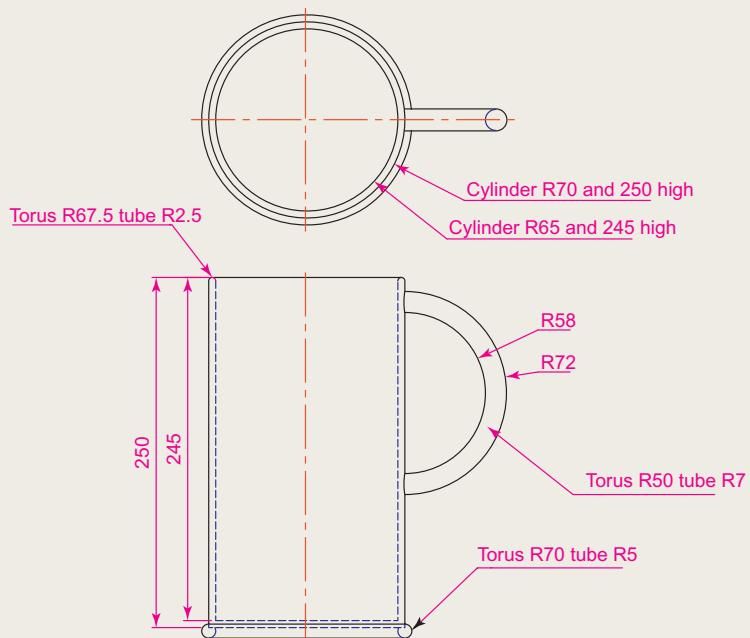

Fig. 14.47 Exercise 4
- Construct a solid of revolution of the jug shown in the orthographic projection (Fig. 14.47). Construct a handle from an extrusion of a circle along a semicircular path. Union the two parts.